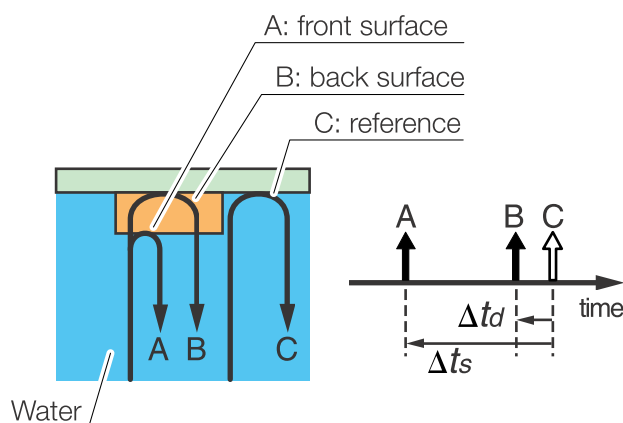

Fig 1. Reflected signal and the tissue
The ultrasonic signal from the probe reflects (A) on the front side and (B) on the back side as shown in fig. 1.